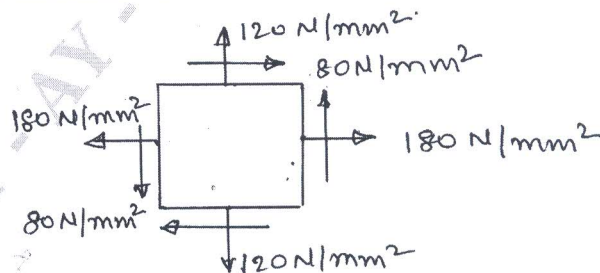

Fig. Q3 (b)
b. The state of stress at a point in a strained material is as shown in Fig. Q3 (b). Determine (i) the direction of the principal planes (ii) The magnitude of principal stresses and (iii) Magnitude of the maximum shear stress. (10 Marks)